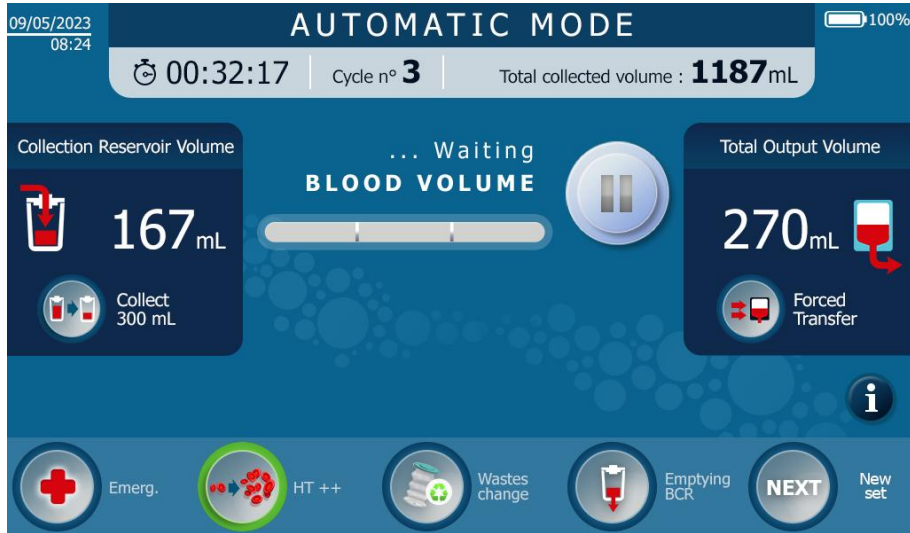

Figure 116: High haematocrit screen with the function activated
- The activated 'HT++' function is displayed by an active HT++ function button  (See Figure 116).